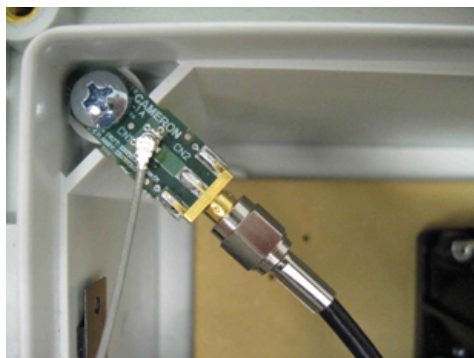

Figure 5.2—External antenna adapter kit
3. Disconnect the small gray cable from the interior antenna and connect it to the connector on the adapter board, as shown in Figure 5.2, page 35. The other end of the cable is connected to the GSM modem module on the main board.
5. Connect the external antenna cable to the adapter board as shown in Figure 5.2 using the SMA-TNCF or other connector adapter if required. The adapter board has an SMA female connector and requires an external